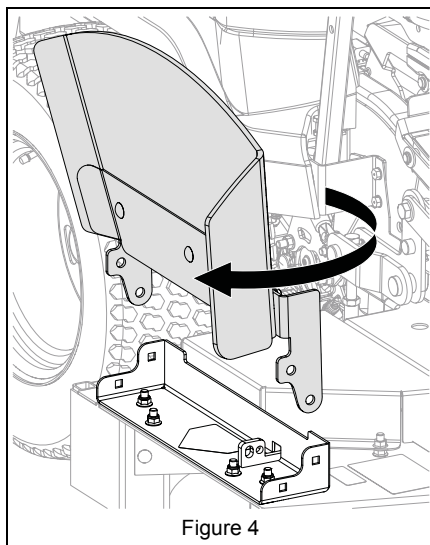

Figure 4
7. Rotate discharge chute 180 degrees. See Figure 4.